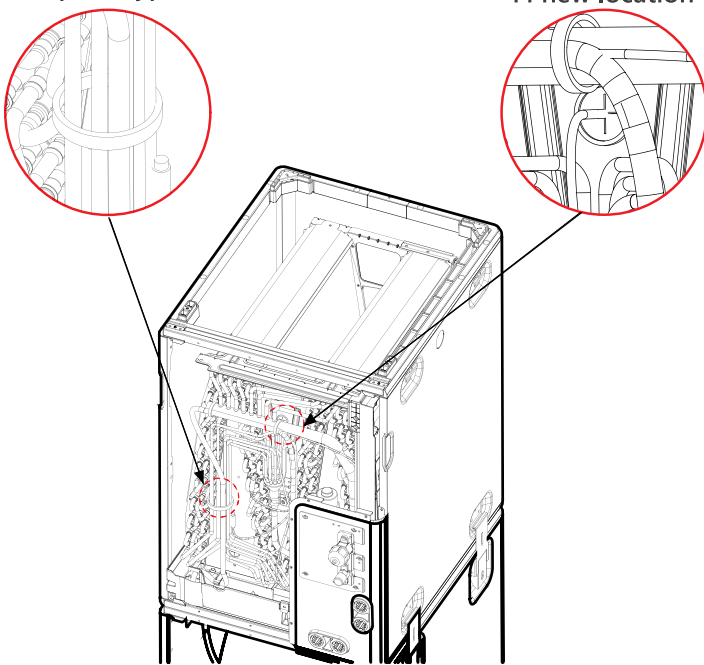

Fig. 1-10: Wire Relocation
9. Relocate the wires and T1 sensor in the coil module. See Fig. 1-10.